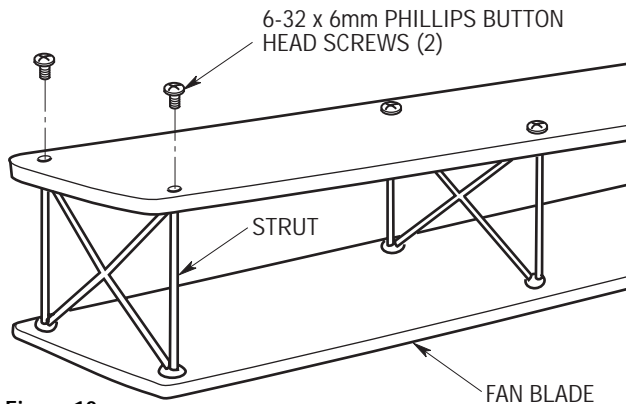

Figure 10
- 14. Slightly separate the upper and lower fan blades and carefully seat the strut into the holes in the end of the fan blades (Figure 10). Secure the strut by installing two 6-32 x 6mm Phillips button head screws (supplied). Be careful not to scratch the blades.